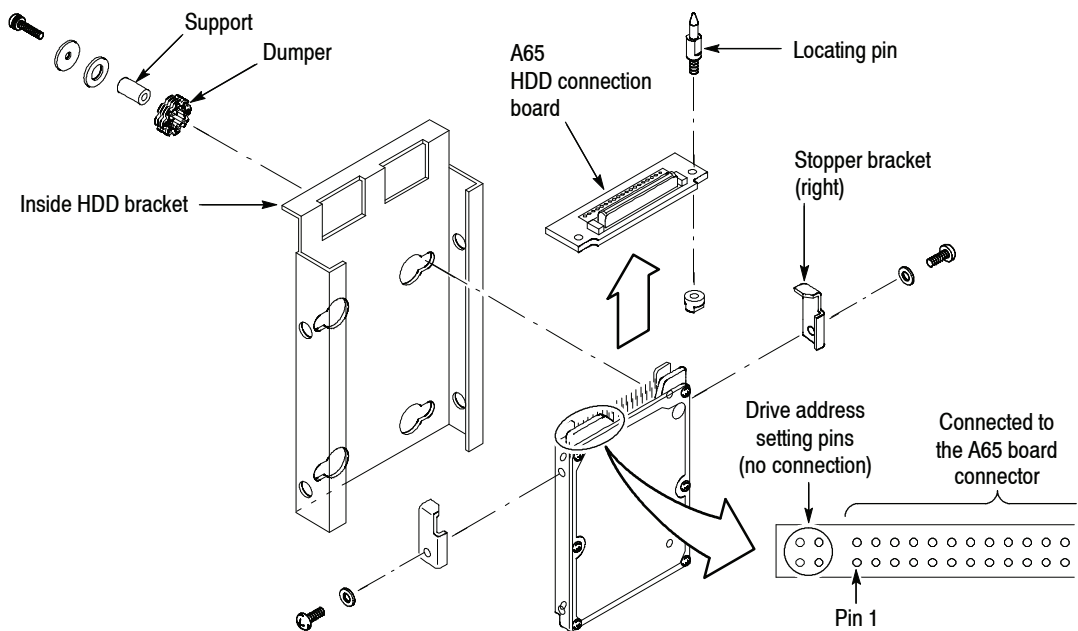

Figure 5-19: Hard disk drive removal
6. *Remove the hard disk:* See Figure 5-19.